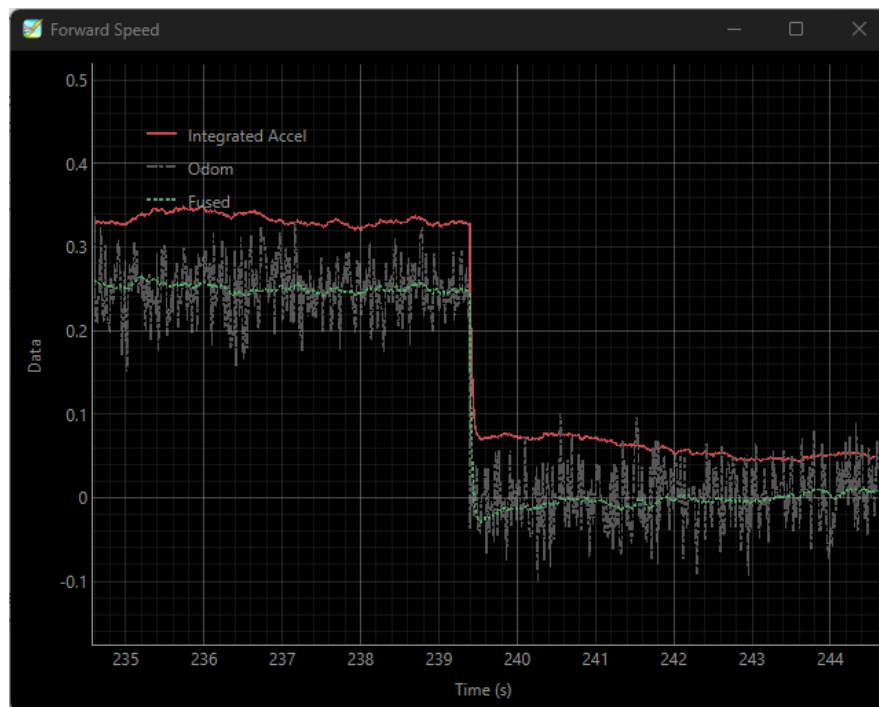

Figure 3: Fused forward speed estimate with tuned K_p and K_i gains
14. Run your code and observe the signals as you tune the gains K_p and K_i . How does each value affect how the signals are fused together? Tune the gains until the fused forward speed accurately tracks the correction signal with minimal noise. A sample tuned signal is shown in Figure 3.